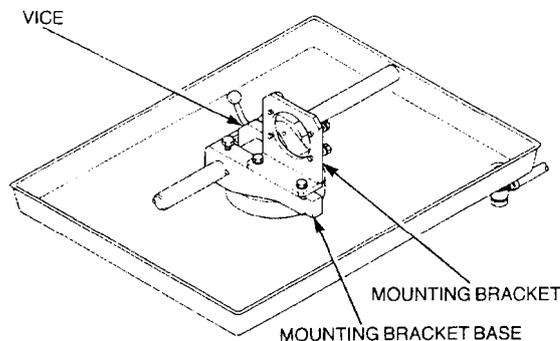

Figure 65 Universal Vice and Bracket Assembly
- e. Install the mounting bracket base (Table 3, Serial 16) onto the universal vice (Table 3, Serial 17), attach the injection pump mounting bracket (Table 3, Serial 18) onto the mounting bracket base and secure it with two bolts (Figure 65).